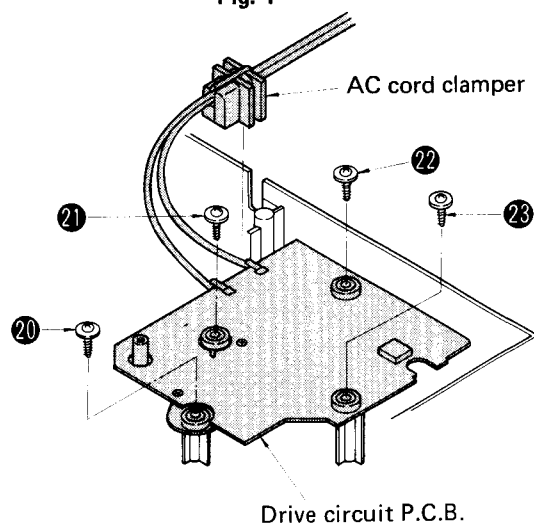

Fig. 3
2. Remove the AC cord clamber and disengage the set screws ⑳ to ㉓ of the drive circuit P. C. B, then the P. C. B. can be detached. (See Fig. 3)